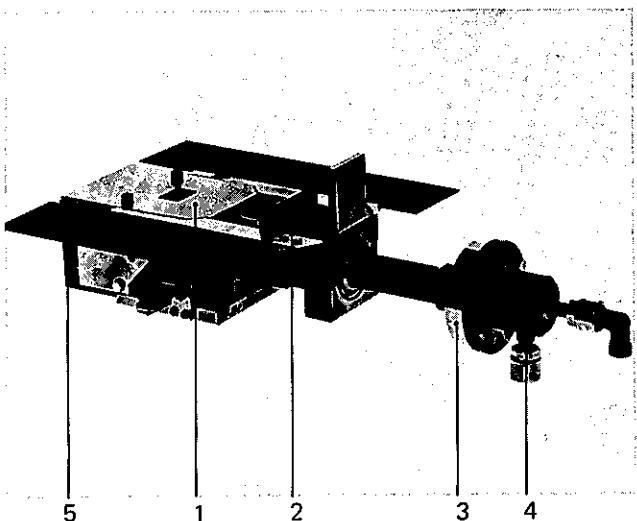
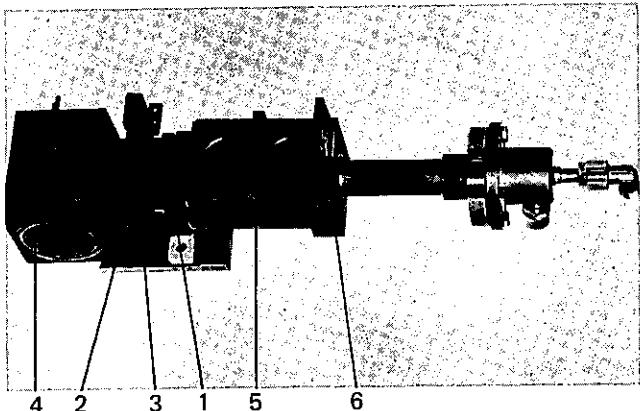

Fig. 3 UHV electron beam evaporation source ESQ 300 U
Fig. 9 Mounting the cathode block, anode and coil
- d. Push the cathode block with gauge (Fig. 9, item 3) towards the anode (Fig. 9, item 2) and attach it to the base plate with the two socket head screws. Screw the screens (Fig. 3, item 5) for the flat insulator to the base plate.
- g. Screw the molybdenum web (Fig. 9, item 5) to the crucible block